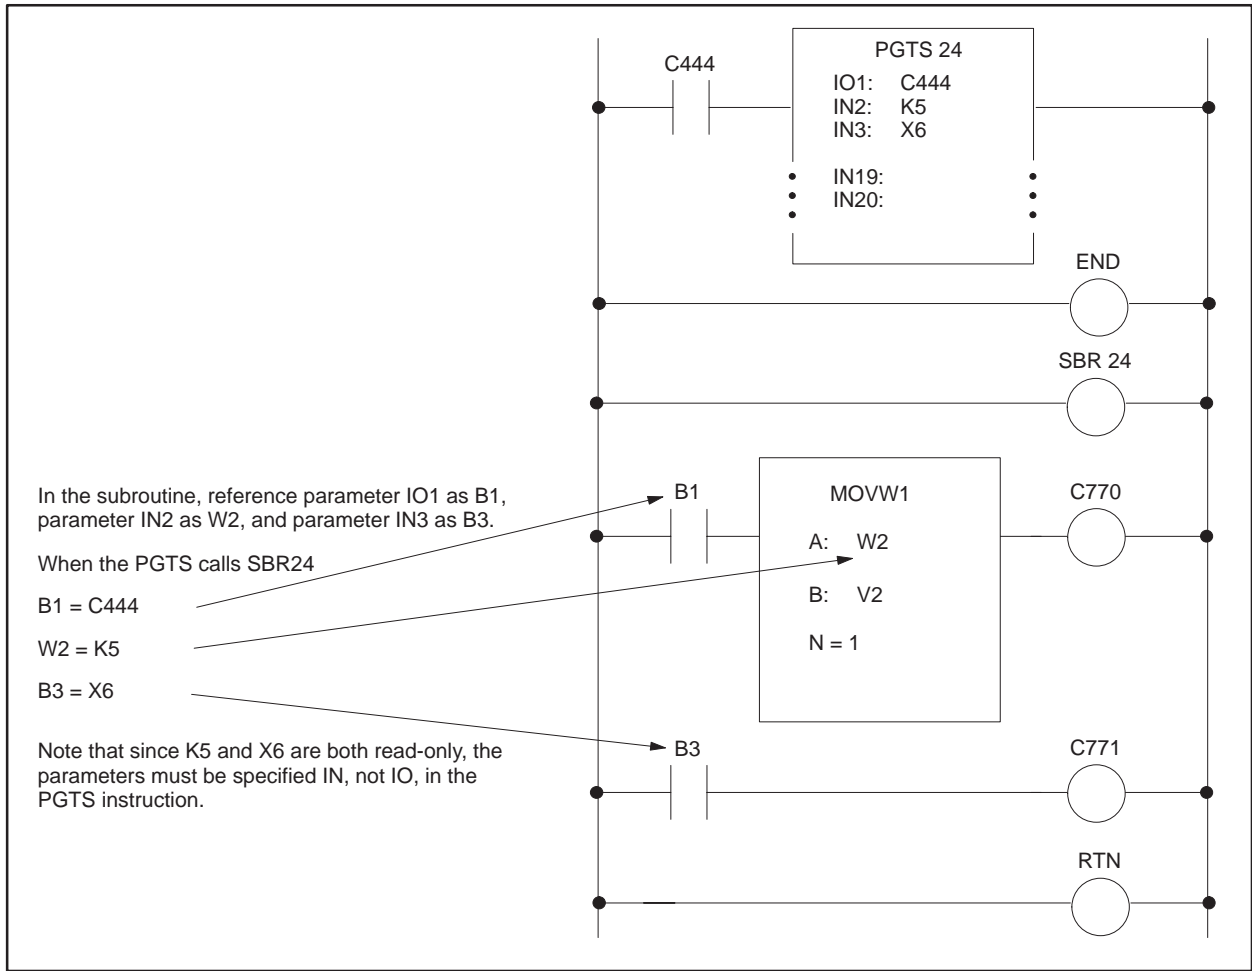

Figure 6-75 SBR Example
- When you pass parameters to the subroutine by calling the subroutine from a PGTS instruction, refer to discrete parameters as Bn, and word parameters as Wn, where n = the number of the parameter in the PGTS. See the example in Figure 6-75.